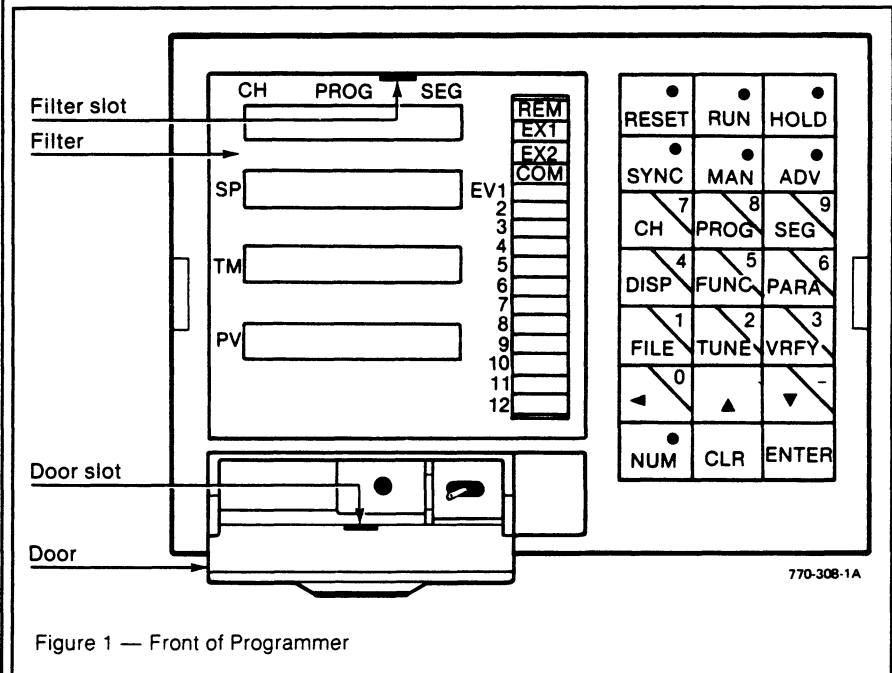

Figure 1 — Front of Programmer
1. Insert a small flatbladed screwdriver into the slot at the top of the filter and pry out (Figure 1).
1. Pull the door down (Figure 1).